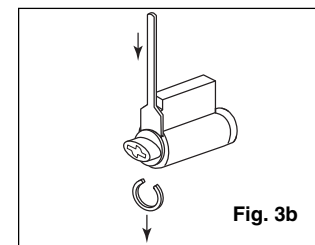

Fig. 3b
- Using retainer removal tool, push against retainer ring until it pops off cylinder plug. **(Note: make sure to push ring in opposite direction of your body; piece is small and likely to fly loose if pushed too hard).** (Fig. 3b)